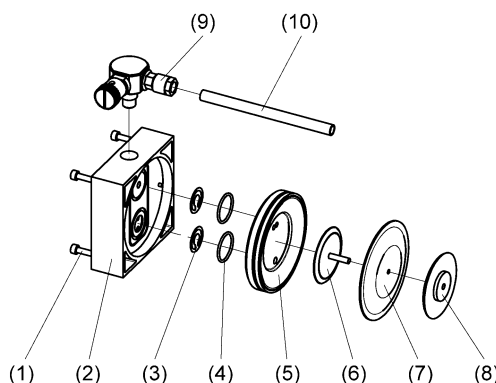

Fig. 11 Disassembly, assembly
7.2.1.2 Assembly (see fig. 11)